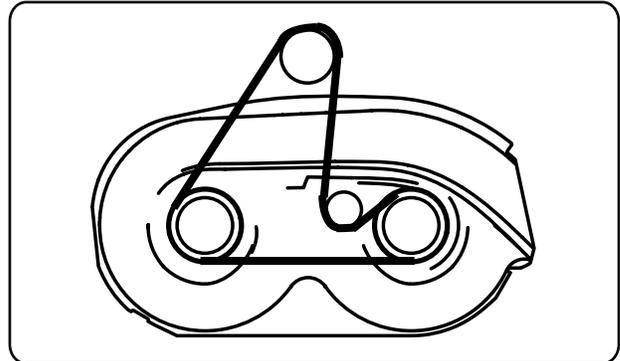

Figure 8.17
- For a 38" "F" deck, See Figure 8.17.